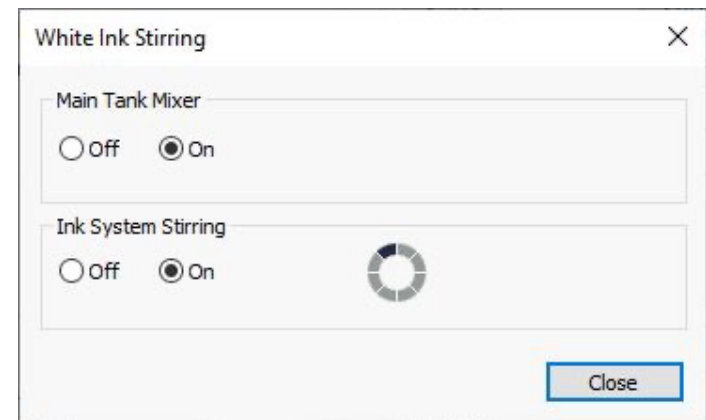

Figure 6-1 White Stirring Dialog
1. Open the **Tools** tab and select the **White Stirring** option. The **White Stirring** dialog box opens, Figure 6-1.